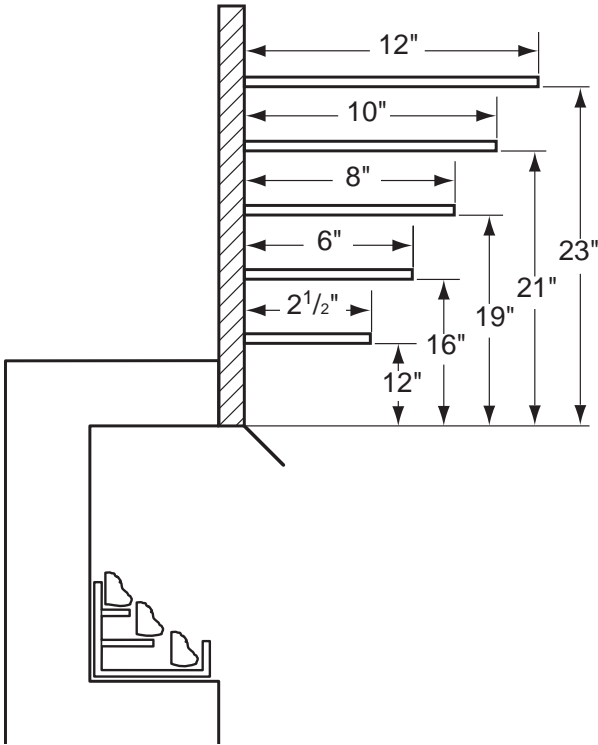

Figure 5 - Mantel Clearances
- Mantel clearances:** The canopy supplied with the unit must be installed. If a combustible mantel is installed, it must meet the clearance requirements as shown in *Figure 5*. However, if lower mantel height is desired, refer to page 14 for canopy options.